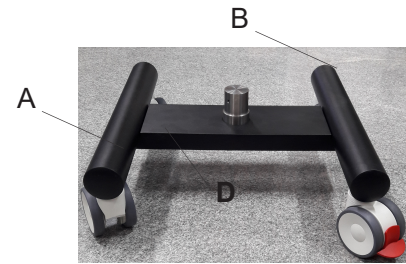

Fig. 1
7.1 Install the base by fixing the both sides (A) & (B) on the metal plate (D) as shown in Fig. 1 by tighten the allen screws provided from the bottom of the metal plate.
7.2 Referring Fig. 1.a the base is installed by fixing the column (C) on the shaft (E). Engage the column onto the shaft by aligning three tapped holes.
Fig. 1 a